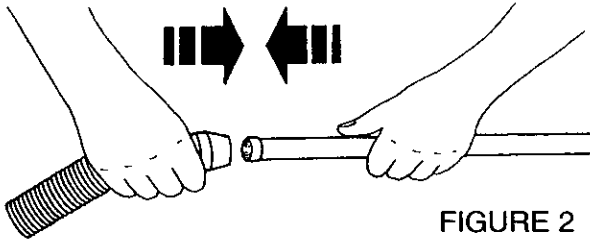

FIGURE 2
- Insert the Wand end into the Hose Collar and push firmly until the Wand enters and slides easily into the full length of the Hose. (Figure 2) Make sure the Wand reaches the bottom of the Hose.
- To re-assemble the Wand, simply re-insert the Wand back into the Hose Collar. (Figure 2 on page 3)